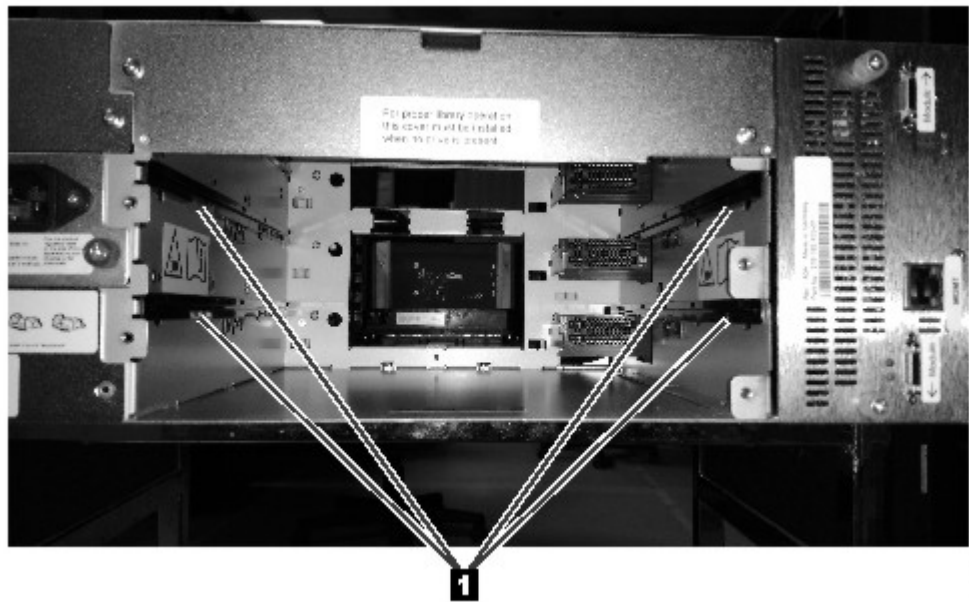

Figure 60. Alignment rails
2. Align and slowly insert the new tape drive into the drive bay along the alignment rails (1 in Figure 60 on page 140) while the drive assembly is supported. The tape drive must be flush with the back panel of the library.